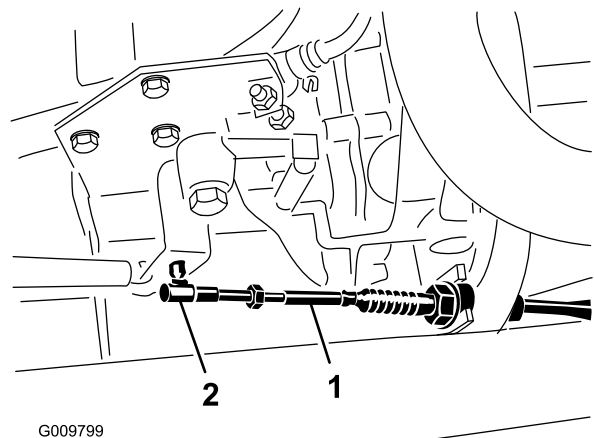
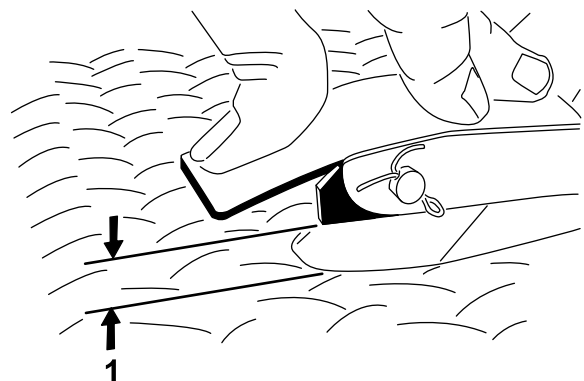

Figure 62
Figure 63
2. Adjust the ball joint on the accelerator cable (Figure 62) to allow 0.100 to 0.250 inch (2.54 to 6.35 mm) of clearance between the accelerator pedal arm and the top of the diamond tread floor plate (Figure 63), when a 25 lb (111 N) force is applied to the center of the pedal. Tighten the locknut.